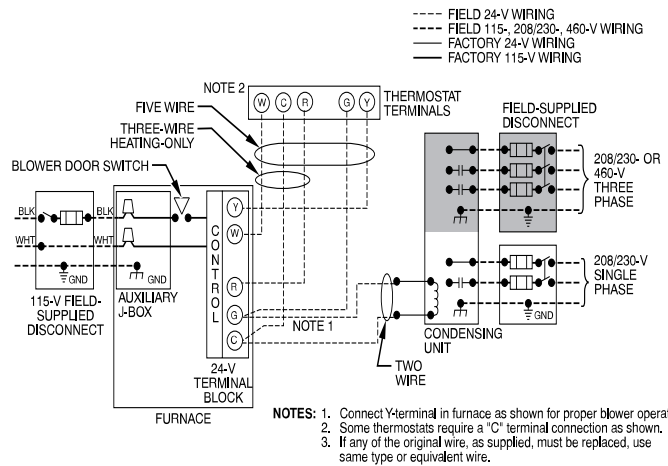

Fig. 23 – Heating and Cooling Application Wiring Diagram with 1-Stage Thermostat A180241
See **Fig. 23** for field wiring diagram showing typical field 115-V wiring. Check all factory and field electrical connections for tightness.
12. Complete electrical box wiring and installation. Connect line voltage leads as shown in Fig. 23. Use best practices (NEC in U.S. for wire bushings, strain relief, etc.)
5. Connect line voltage leads as shown in Fig. 23.
Make field 24-V connections at the 24-V terminal strip, see Fig. 23. Connect terminal Y as shown in Fig. 36 for proper cooling operation. Use only AWG No. 18, color-coded, copper thermostat wire.